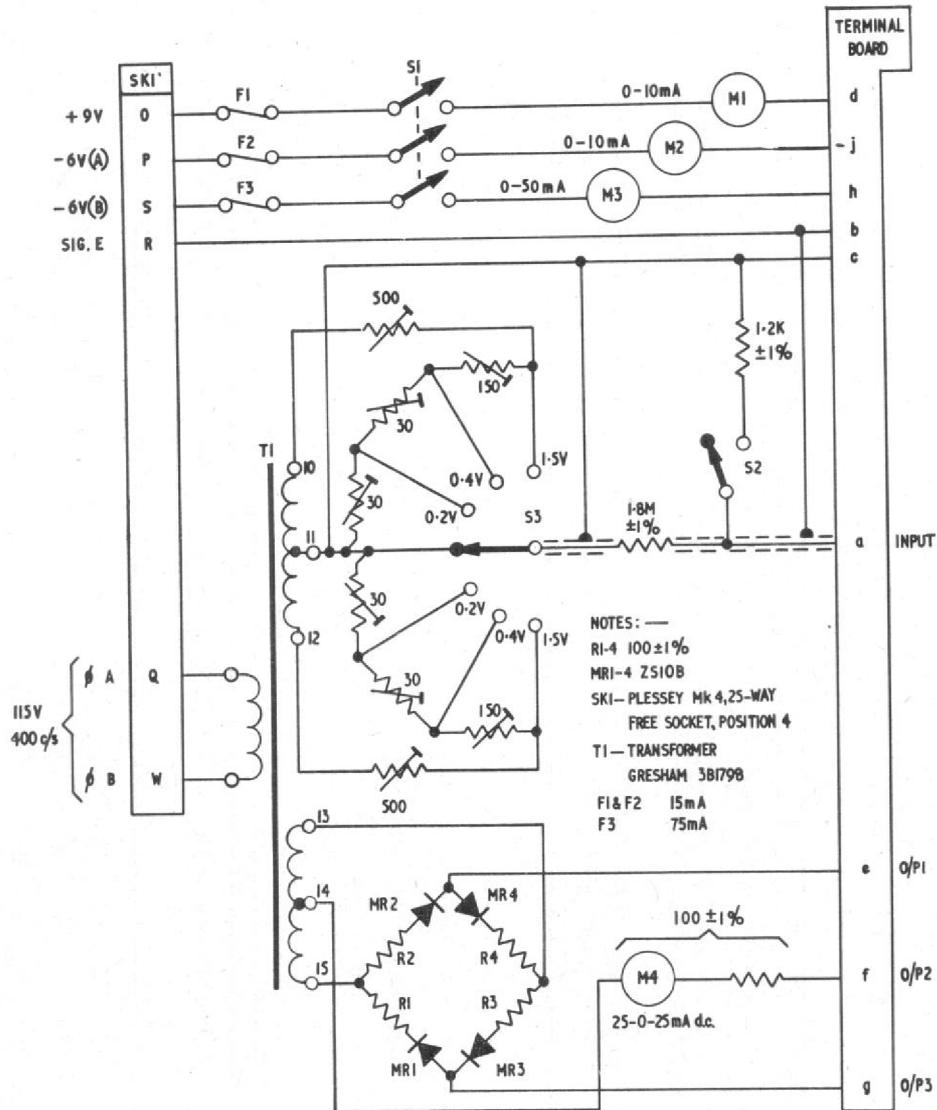

Fig. 17. Transistor amplifier test equipment—circuit diagram
150. Connect SK1 of transistor amplifier (TA) test equipment (fig. 17) to PL4 of test set, Type 9B SDP and connect the transistor amplifier to the terminal board of TA test equipment. Switch test set, Type 9B S1 and TA test equipment S1 to ON and TA test equipment S2 and S3 to OFF. The TA test equipment meter indications should be as follows:—